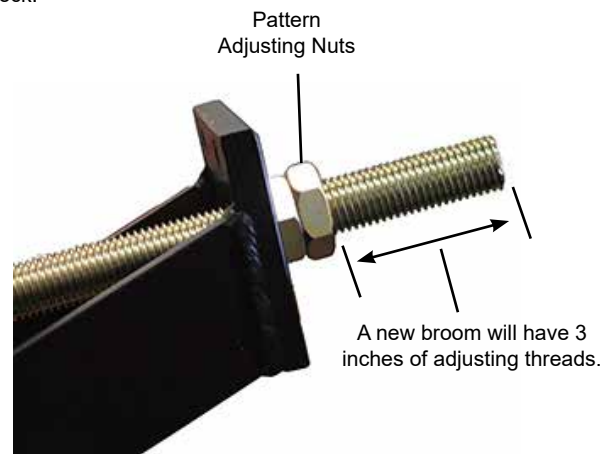

Figure 3
3. Swing the broom so that it is horizontal and tighten the pattern adjustment jam nuts. (See Figure 3.)
1. After the broom has been leveled, the last adjustment is to set the brush pattern. This adjustment is located at the top of the broom. (Refer to Figure 3)